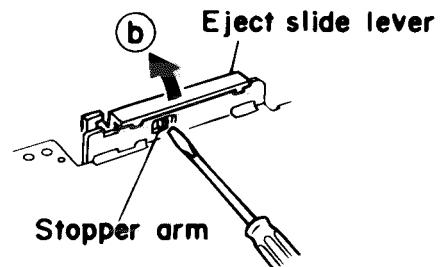

Fig.2-11
■ Eject slide lever (Fig.2-11)
1. Place the cassette mechanism back side forward and disengage the stopper arm (b) of the Eject slide lever by pressing it inwards through the opening of the chassis with a small screwdriver as shown in Fig.2-11.